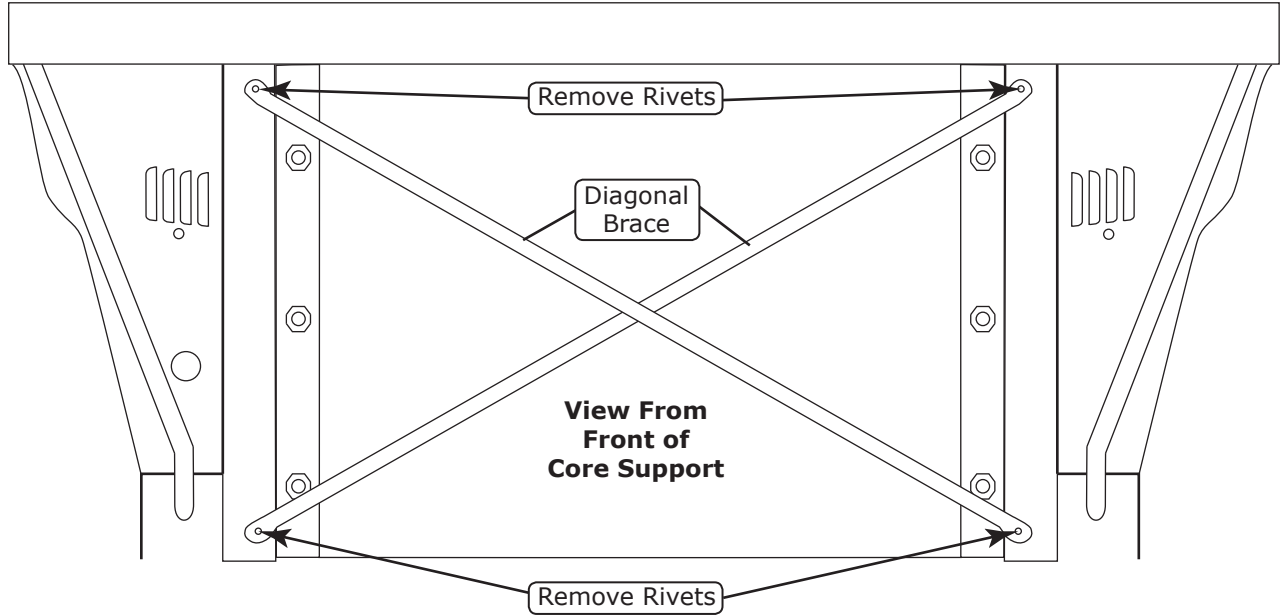

Figure 2
1. Remove the (4) rivets holding the diagonal brace to the core support (See Figure 2, below). Discard the diagonal brace.